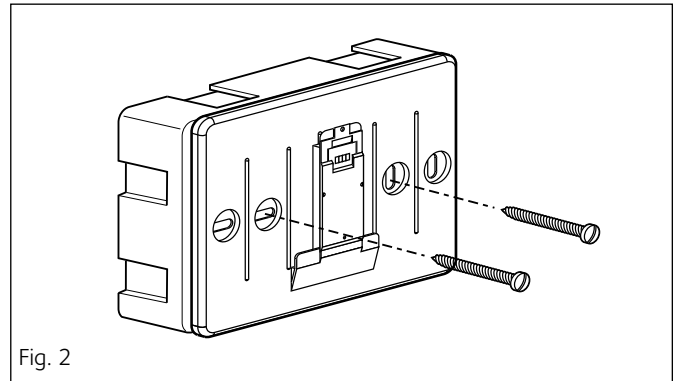

Fig. 2
- fix the base of the device to the box on the wall using the screws supplied in the kit (fig. 2);